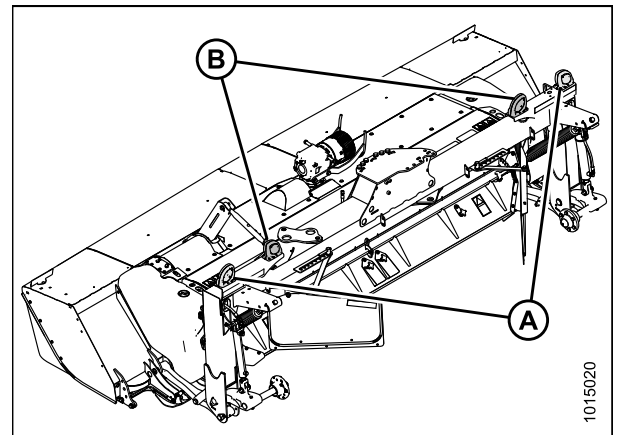

Figure 7.7: Lighting Locations
- If the disc mower does **NOT** include the Road Friendly Transport™ system, refer to Figure 7.7, page 191.